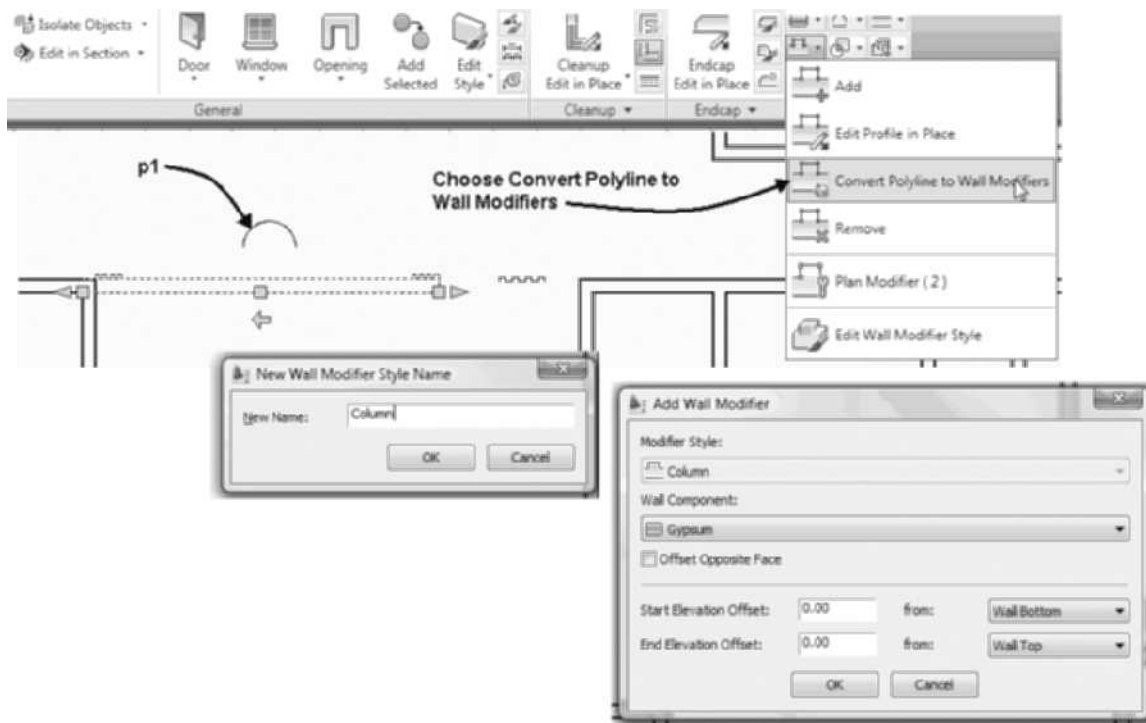
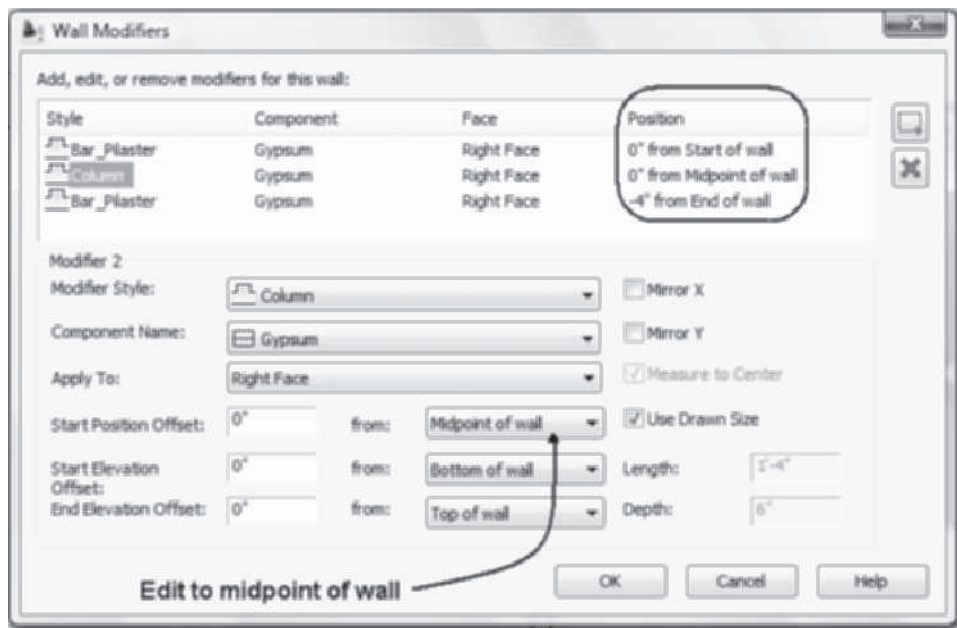

FIGURE 3.86 Creating a Wall Modifier from Existing Geometry
FIGURE 3.87 Wall Modifiers dialog box
14. To create a wall modifier from existing geometry, choose Convert Polyline to Wall Modifiers of the Plan Modifier flyout of the Modify panel in the Wall tab as shown in Figure 3.86. Respond to the following workspace prompts:
Select a polyline: *(Select the arc at p1 shown in Figure 3.86.)*
15. Type **Column** in the **New Name** field of the **New Wall Modifier Style Name** dialog box shown in Figure 3.86. Click **OK** to dismiss the New Wall Modifier Style Name dialog box.
16. Edit the **Add Wall Modifier** dialog box as shown in Figure 3.86 and click **OK** to dismiss the dialog box.
17. Select the wall modifier placed in the previous step and choose Plan Modifier (3) from the Plan Modifier flyout of the Modify panel to open the **Wall Modifiers** dialog box. The **Column** plan modifier will be moved in the next step by editing the settings in the Wall Modifiers dialog box.
18. Select the Column plan modifier and edit the Start Position Offset = **0 [0]** from **Midpoint of Wall**. Verify that the wall modifiers are positioned as shown in Figure 3.87. Click **OK** to dismiss the Wall Modifiers dialog box.